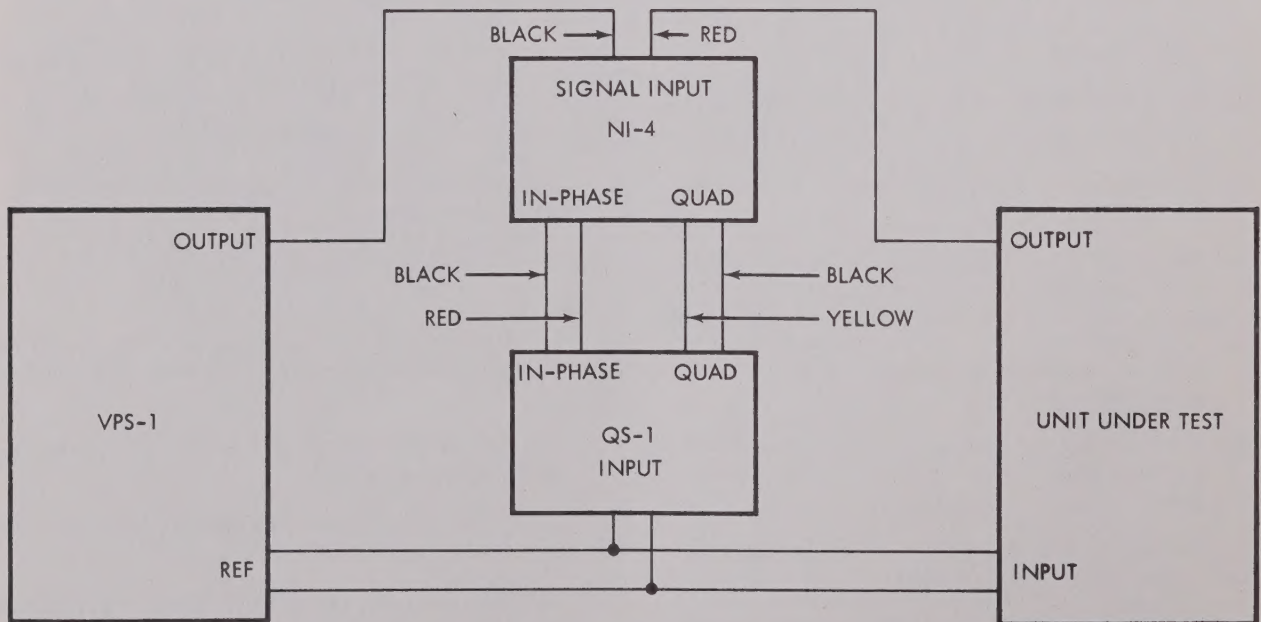

Figure 1. Interconnections for Complex Ratio Bridge Measurements
- d. Interconnect equipment as shown on the attached figure 1.